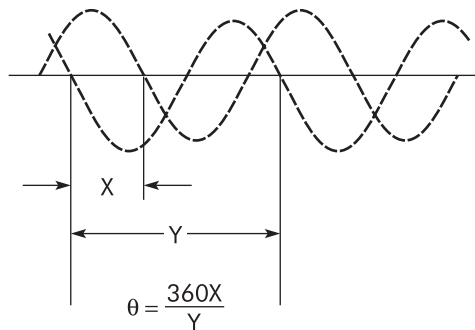

FIGURE 38-3 Calculating phase difference
3. Refer to Figure 38-3. Using the technique shown, determine the phase difference between the two signals you are displaying on your scope.